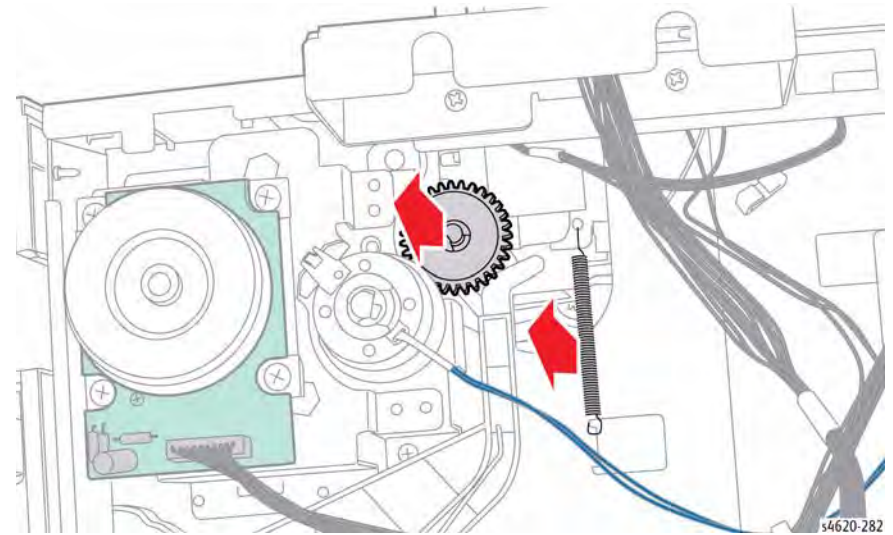

Figure 2 Remove the pick-up gear and spring
9. Release the pick-up spring from the pick assembly, Figure 2.